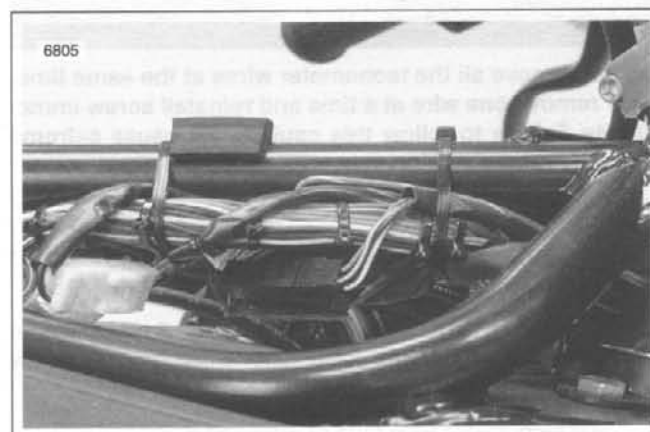

Figure 2-63. Speedometer Wiring Connector Locations (Approximate)
- a. See Figure 2-63. Attach wires at plug connector.